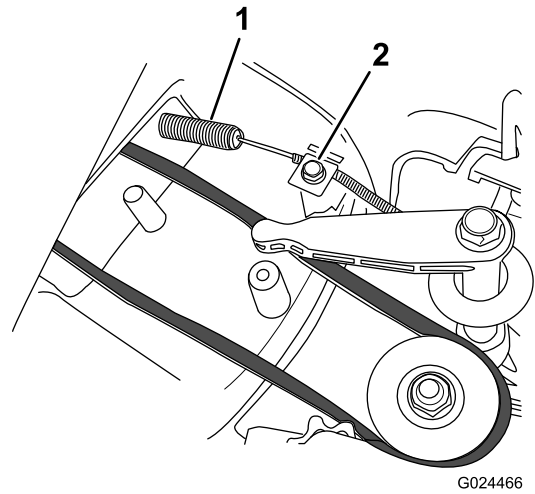

Figure 33
4. Install the new blade-brake cable, but do not tighten the cable clamp on the top of the mower housing (Figure 33).
5. Loosen the cable-clamp screw (Figure 33).